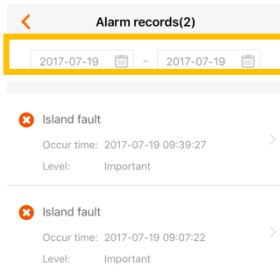

Fig. 10-8 Fault alarm records
Step 1 Click the “Alarm Records” to check the alarm records as shown in Fig. 10-8.